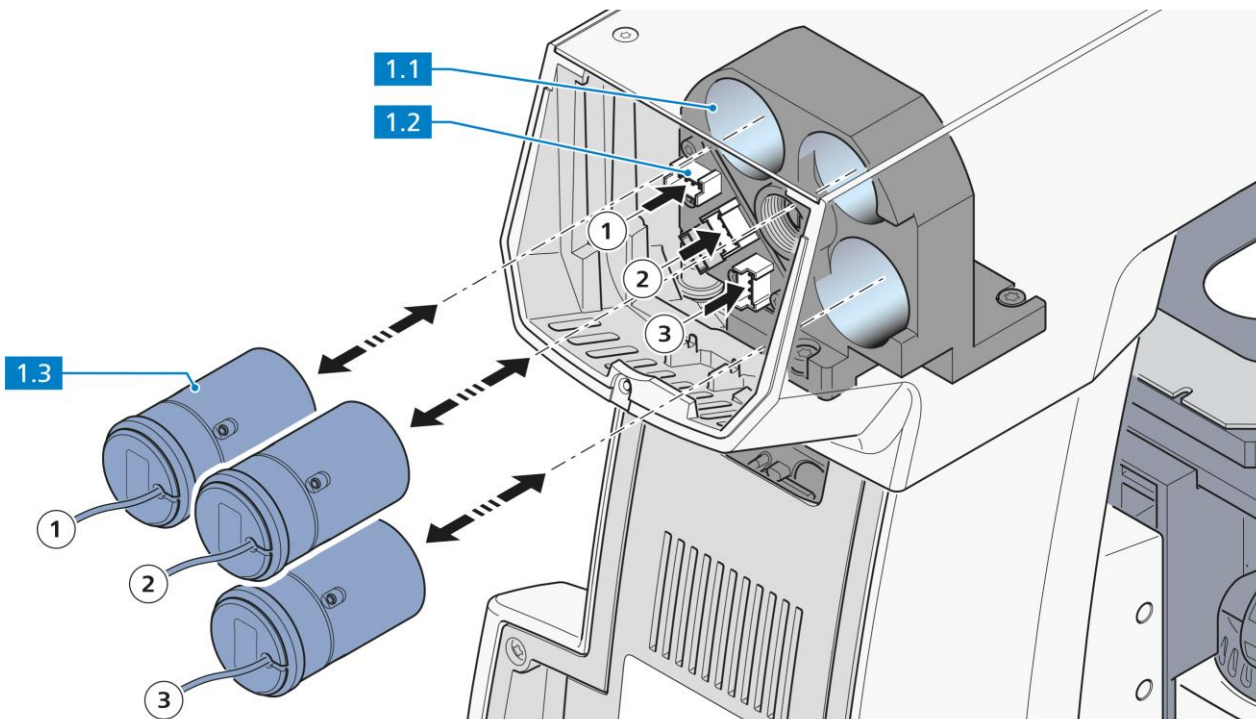

Fig. 3-26 Changing the LED modules
- When changing the modules, remove the module plugs from the connectors (Fig. 3-26/1.2) of the stand.
- Pull the old LED modules (Fig. 3-26/1.3) out of the holding positions of the LED tube (Fig. 3-26/1.1).
- Insert the new LED modules into the LED tube up to the stop. Ensure that the modules are inserted in the right holding positions (Fig. 3-26/①②③).
<p>NOTE</p> <p>The LED positions ①, ② and ③ in Fig. 3-26 correspond to the UV, B and G labels on the right side of the microscope (see section 2.4.3, Fig. 2-3/4).</p>
- Plug the module plugs into the connectors (Fig. 3-26/1.2) of the stand. Ensure that the plugs are connected to the right connectors (Fig. 3-26/①②③).
- Screw the module holder (Fig. 3-26/1) into the LED tube to fix the modules in place.